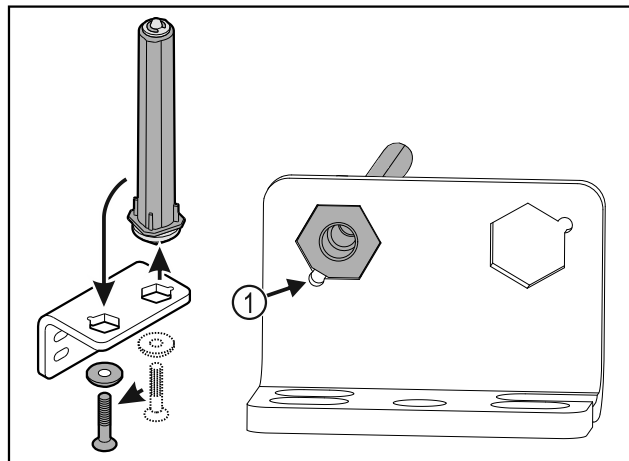

Fig. 22
- Make sure the pin chamfer Fig. 22 (1) faces the round hole when you put it in.